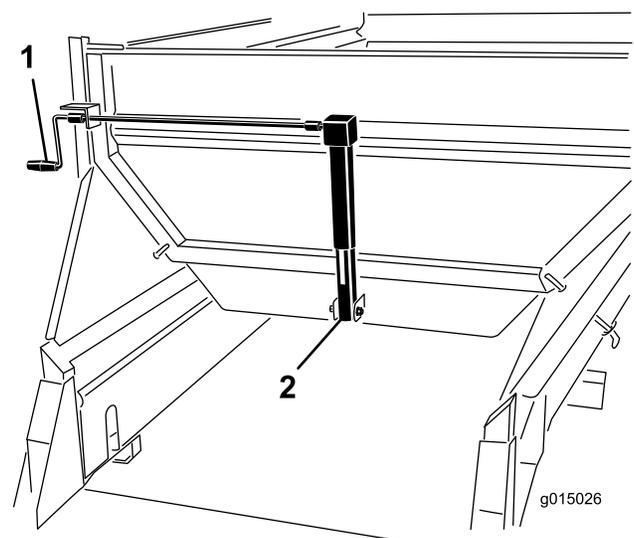

Figure 46
Rotate the crank to adjust the gate (Figure 46) until the arrow aligns with the center of the desired color (yellow for this example).
1. Rotate the crank to adjust the gate (Figure 46) until the arrow aligns with the center of the desired color (yellow for this example).